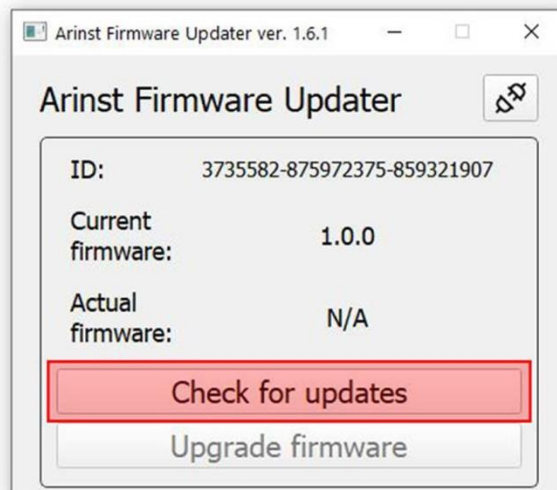

Figure A2.3 - The device is connected to the PC
2.7. After connection, the ID and firmware version of the device will be determined. The **Check for updates** button will become active (Figure A2.3).